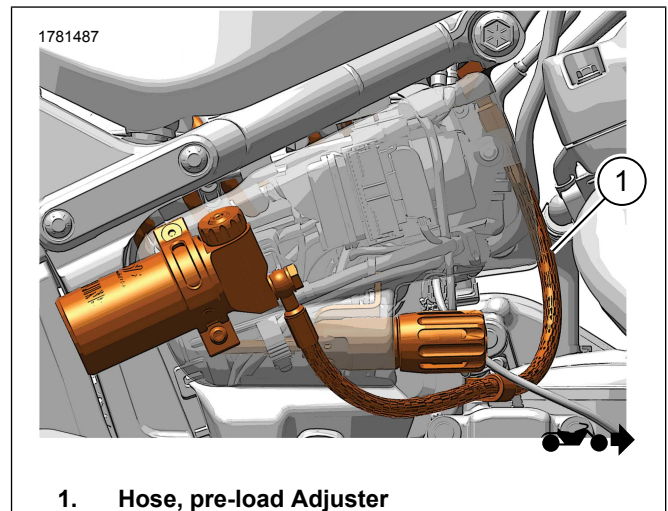

Figure 3. Route Pre-Load Adjuster Hose
2. See Figure 3. Slide clip(1) to **new** pre-load adjuster bracket (4).
3. Install pre-load adjuster bracket screw (2) and washer (3). Tighten.
2. See Figure 3. Install pre-load adjuster (5) to pre-load adjuster bracket (4) with screws (6). Tighten.